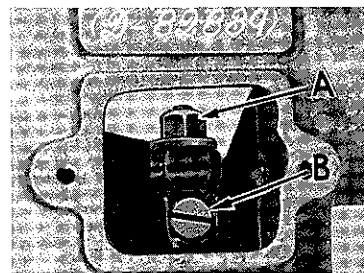

Fig. 8
To change the stitch length, remove the cover plate located on the back of the machine directly below the serial number. Loosen the lock nut (A, Fig. 8) and turn screw (B) clockwise to shorten stitch or counterclockwise to lengthen it. After desired stitch length has been obtained, re-tighten the lock nut and replace the cover.